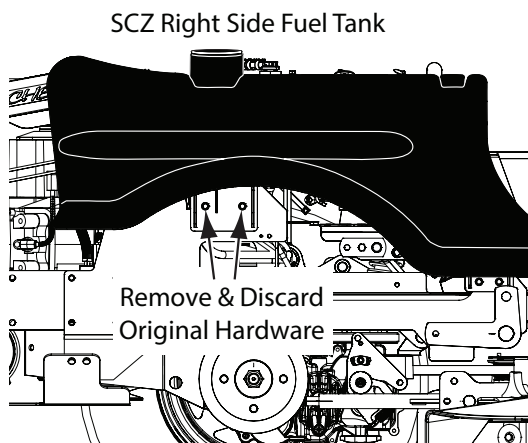

Figure 3-25. SCZ-61V OCDC Bracket Mounting
1. For **SCZ-61V-OCDC**, remove and discard two (2) 5/16-18 serrated flange nuts and two (2) 5/16-18 x 3/4" carriage bolts used to secure the right hand fuel tank mounting bracket to machine frame. See Figure 3-25.